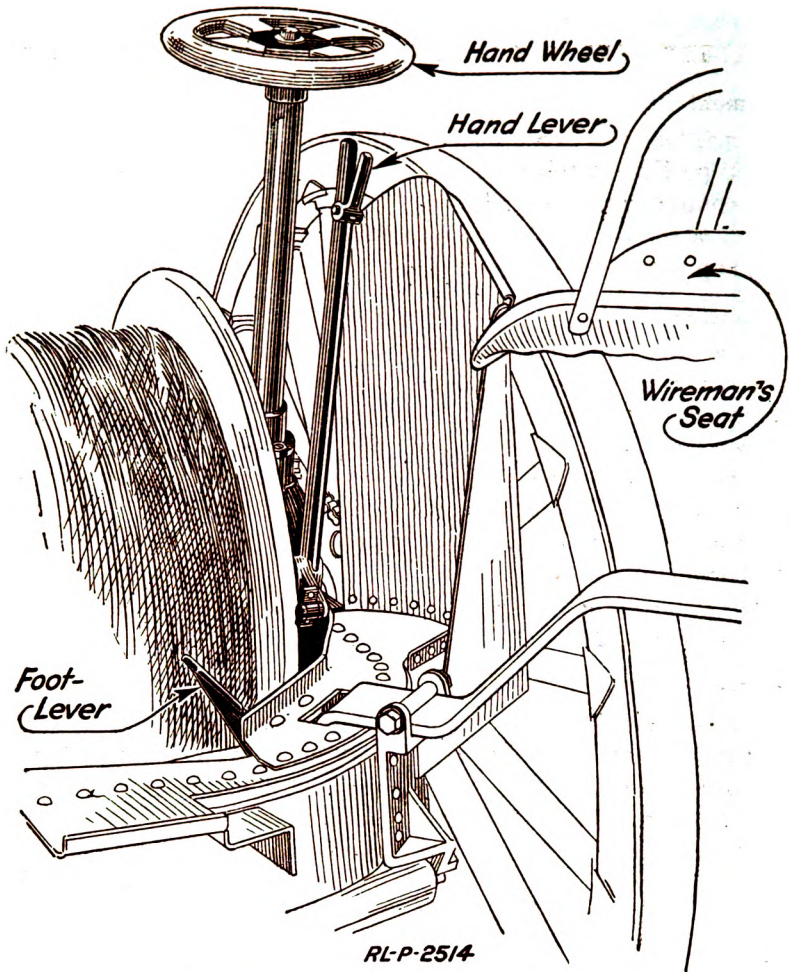

Fig. 24.—The artillery reel, wireman's controls
1. Go to the rear of the reel cart and note the handwheel at the upper end of standard (Fig. 24) mounted on the right axle bracket. This wheel controls the driving gear clutch. Take hold of this handwheel and turn it as far as possible in a clockwise direction (neutral position). Try to spin the right drum by hand. Have an assistant move the right wheel of the reel by swinging the pole to the left. Note the effect on the right drum.
4. Note the hand lever (drum latch lever, Fig. 24) on the right side of the reel (between the operator's seat and the driving-gear clutch standard). Work this lever back and forth. Note that a catch engages in two notches when the lever is pushed forward. Turn the handwheel in a clockwise direction (disengaging clutch). Push the hand lever until the catch engages in forward notch. Spin the drum. Push the hand lever forward as far as possible and note the effect on the drum. Pull the lever slowly and revolve the drum until the lever stud engages between the (gears) of the reel lug (traveling position). Try to spin the wheel.